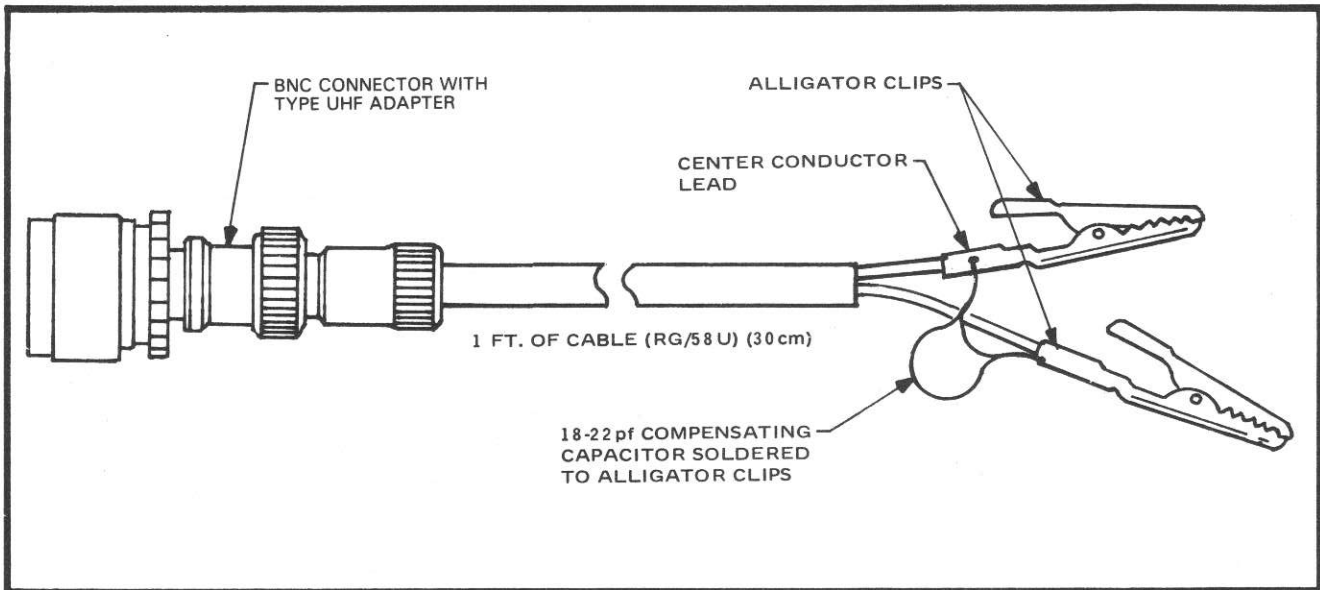

Figure 5.8 RF Module Cable Assembly
- 6) Adjust R18 for a DC null on Pin No. 6. If a compensating capacitor is not available for the cable assembly (Figure 5.8), adjust the R18 for -75 mV DC instead of the DC null.